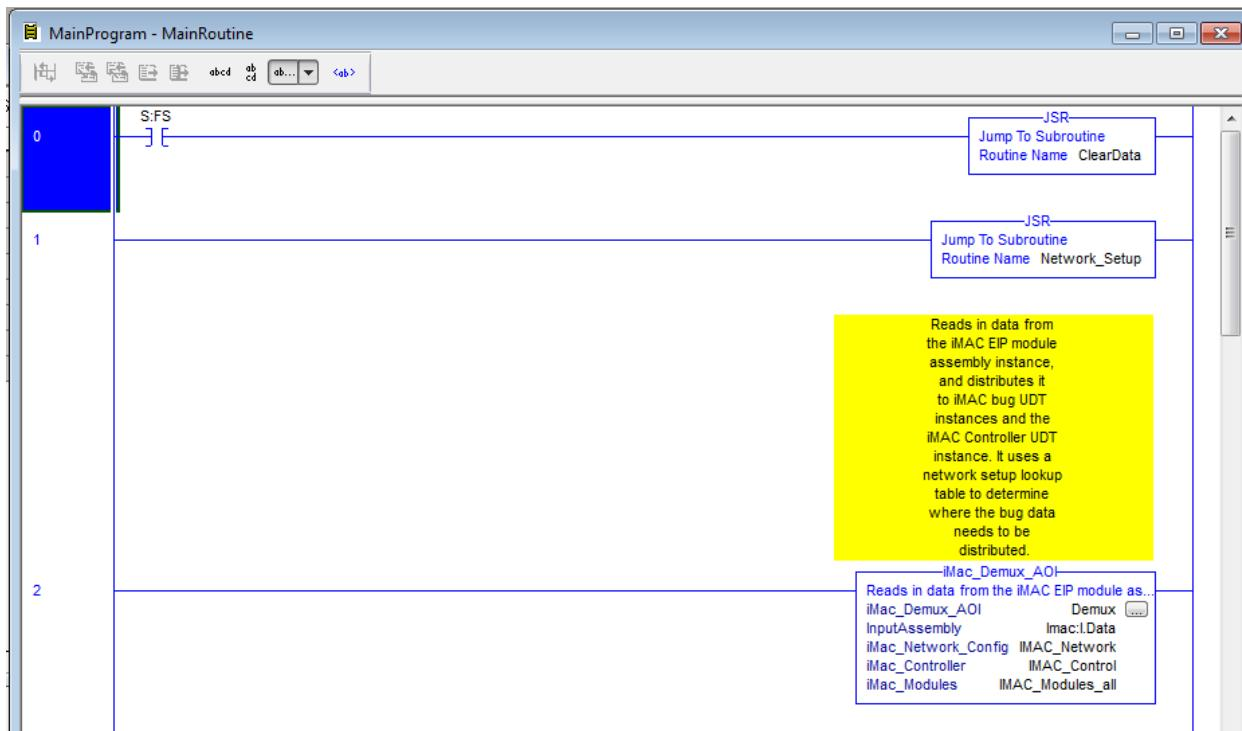

Figure 5: Minimum Program/Routine requirements for getting iMAC2 EtherNet/IP data in RSLogix5000
The minimum Program/Routine requirements for getting iMAC2 EtherNet/IP data in RSLogix5000 are shown in Figure 5. They are:
- Tags for loading, configuring and storing the iMAC2 data. The tags shown in Figure 5 include: